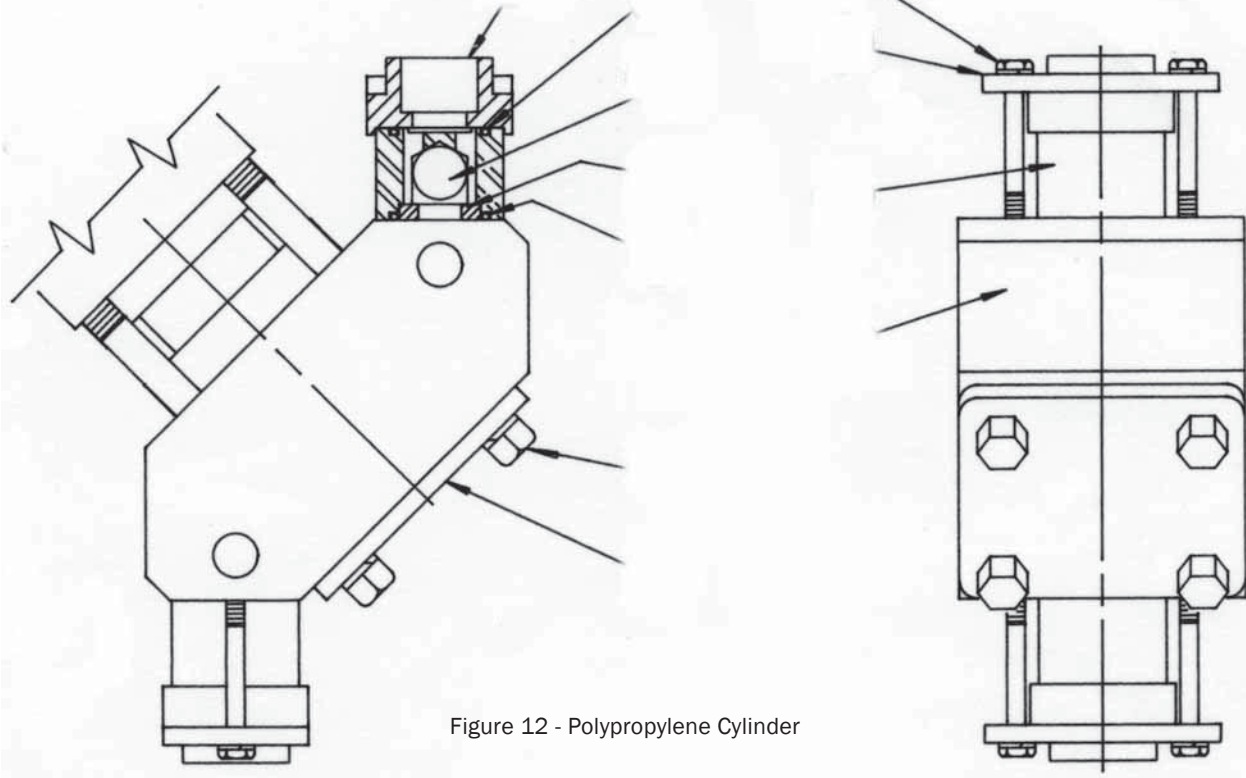

Figure 12 - Polypropylene Cylinder
**Polypropylene Cylinder (see Fig. 12)**